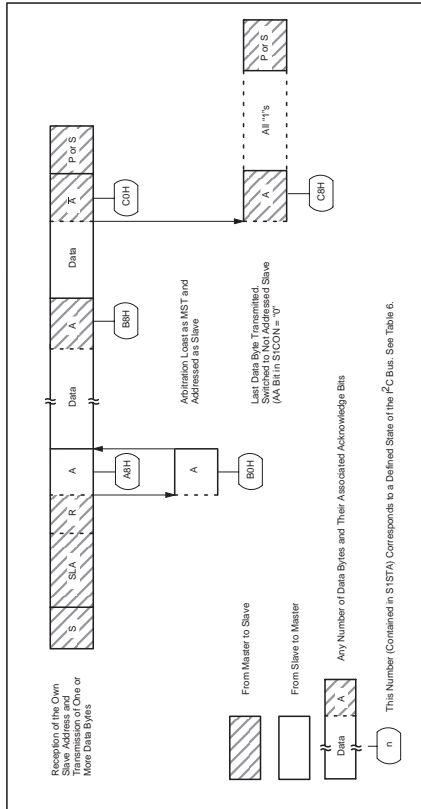

Figure 20. Format and States of the Slave Transmitter Mode
When SIO1 is in the addressed slave transmitter mode, state CBH will be entered after the last serial is transmitted (see Figure 20). When SI is cleared, SIO1 leaves state CBH, enters the not addressed slave receiver mode, and the SDA line remains at a high level. In state CBH, the AA flag can be set again for future address recognition.
Slave Transmitter Mode: In the slave transmitter mode, a number of data bytes are transmitted to a master receiver (see Figure 20). Data transfer is initialized as in the slave receiver mode. When S1ADR and S1CON have been initialized, S1O1 waits until it is addressed by its own slave address followed by the data direction bit which must be "1" (R) for S1O1 to operate in the slave transmitter mode. After its own slave address and the R bit have been received, the serial interrupt flag (SI) is set and a valid status code can be read from S1STA. This status code is used to vector to an interrupt service routine, and the appropriate action to be taken for each of these status codes is detailed in Table 6. The slave transmitter mode may also be entered if arbitration is lost while S1O1 is in the master mode (see state B0H).